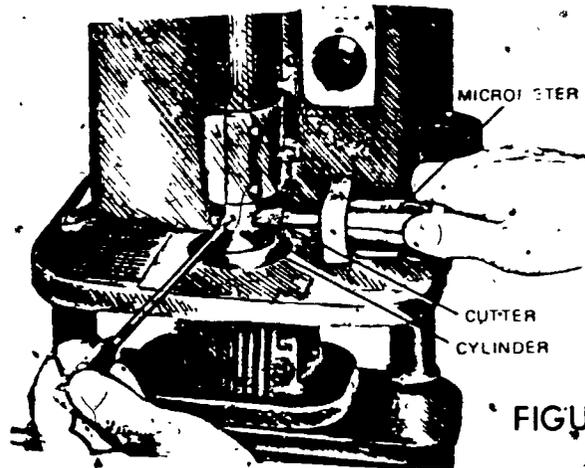

FIGURE 4
- b. Set cutter depth (Figure 4)